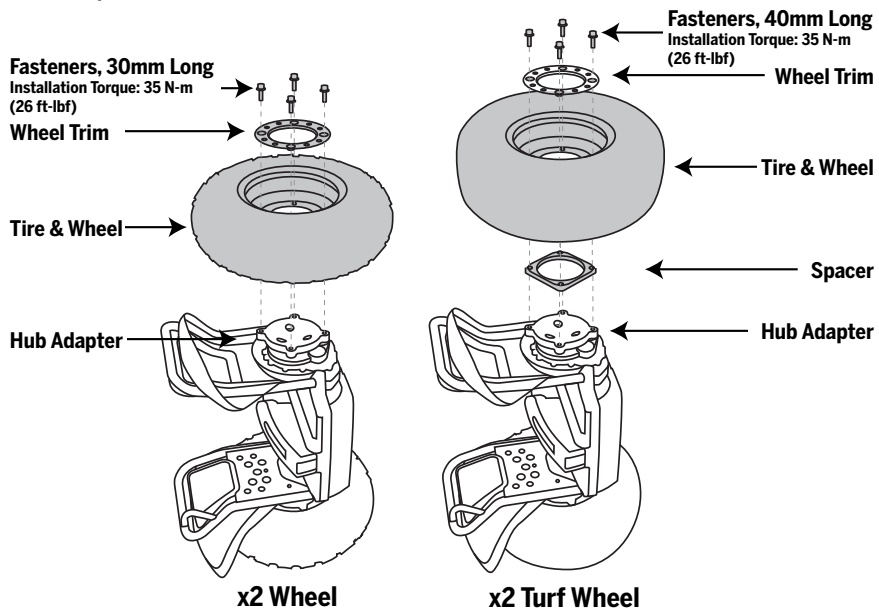

Figure 1. Removing or Installing the Tire & Wheel Assembly
2. To remove the Tire & Wheel Assembly, Wheel Trim and Spacer (x2 Turf only), tip the Segway PT onto its side so the wheel you want to remove is facing up, and the other wheel rests against a clean, smooth surface. See Figure 1.
3. Remove the (4) fasteners with a 8mm hex wrench. Hold the wheel to keep it from rotating. Lift off the wheel and clean all debris from the wheel's mounting surfaces. For x2 Turf: Lift off the Spacer as well. See Figure 1.
4. To re-install the Tire & Wheel Assembly and Trim, place the wheel over the hub adapter with the valve stem facing outward. For x2 Turf: Place the Spacer over the hub adapter, then place the wheel over the spacer. See Figure 1.
5. Place the trim over the wheel. Thread (4) 30mm long fasteners, included with this kit, through the trim and wheel and into the hub adapter. For x2 Turf: Thread (4) 40mm long fasteners, included with this kit, through the trim, wheel and spacer and into the hub adapter.